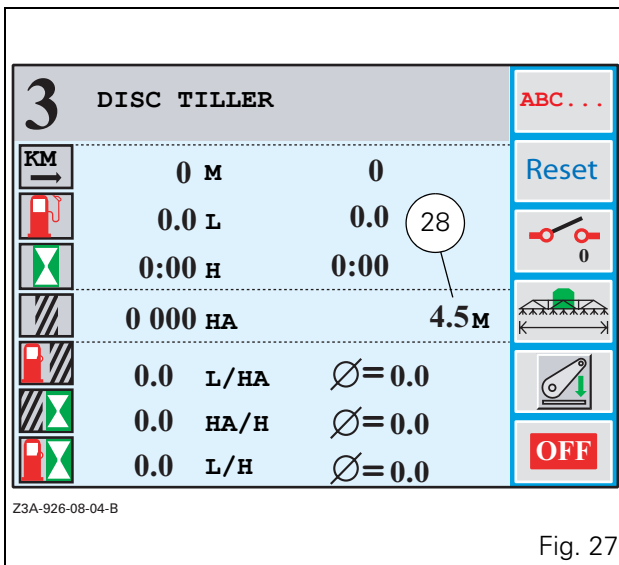

Fig. 27
- Validate the width by pressing the encoder. The window (Fig. 27) is displayed.
- Press the key \ll_2 when the window (Fig. 27) is open. A mark facing the total fuel used is displayed (30 Fig. 29).